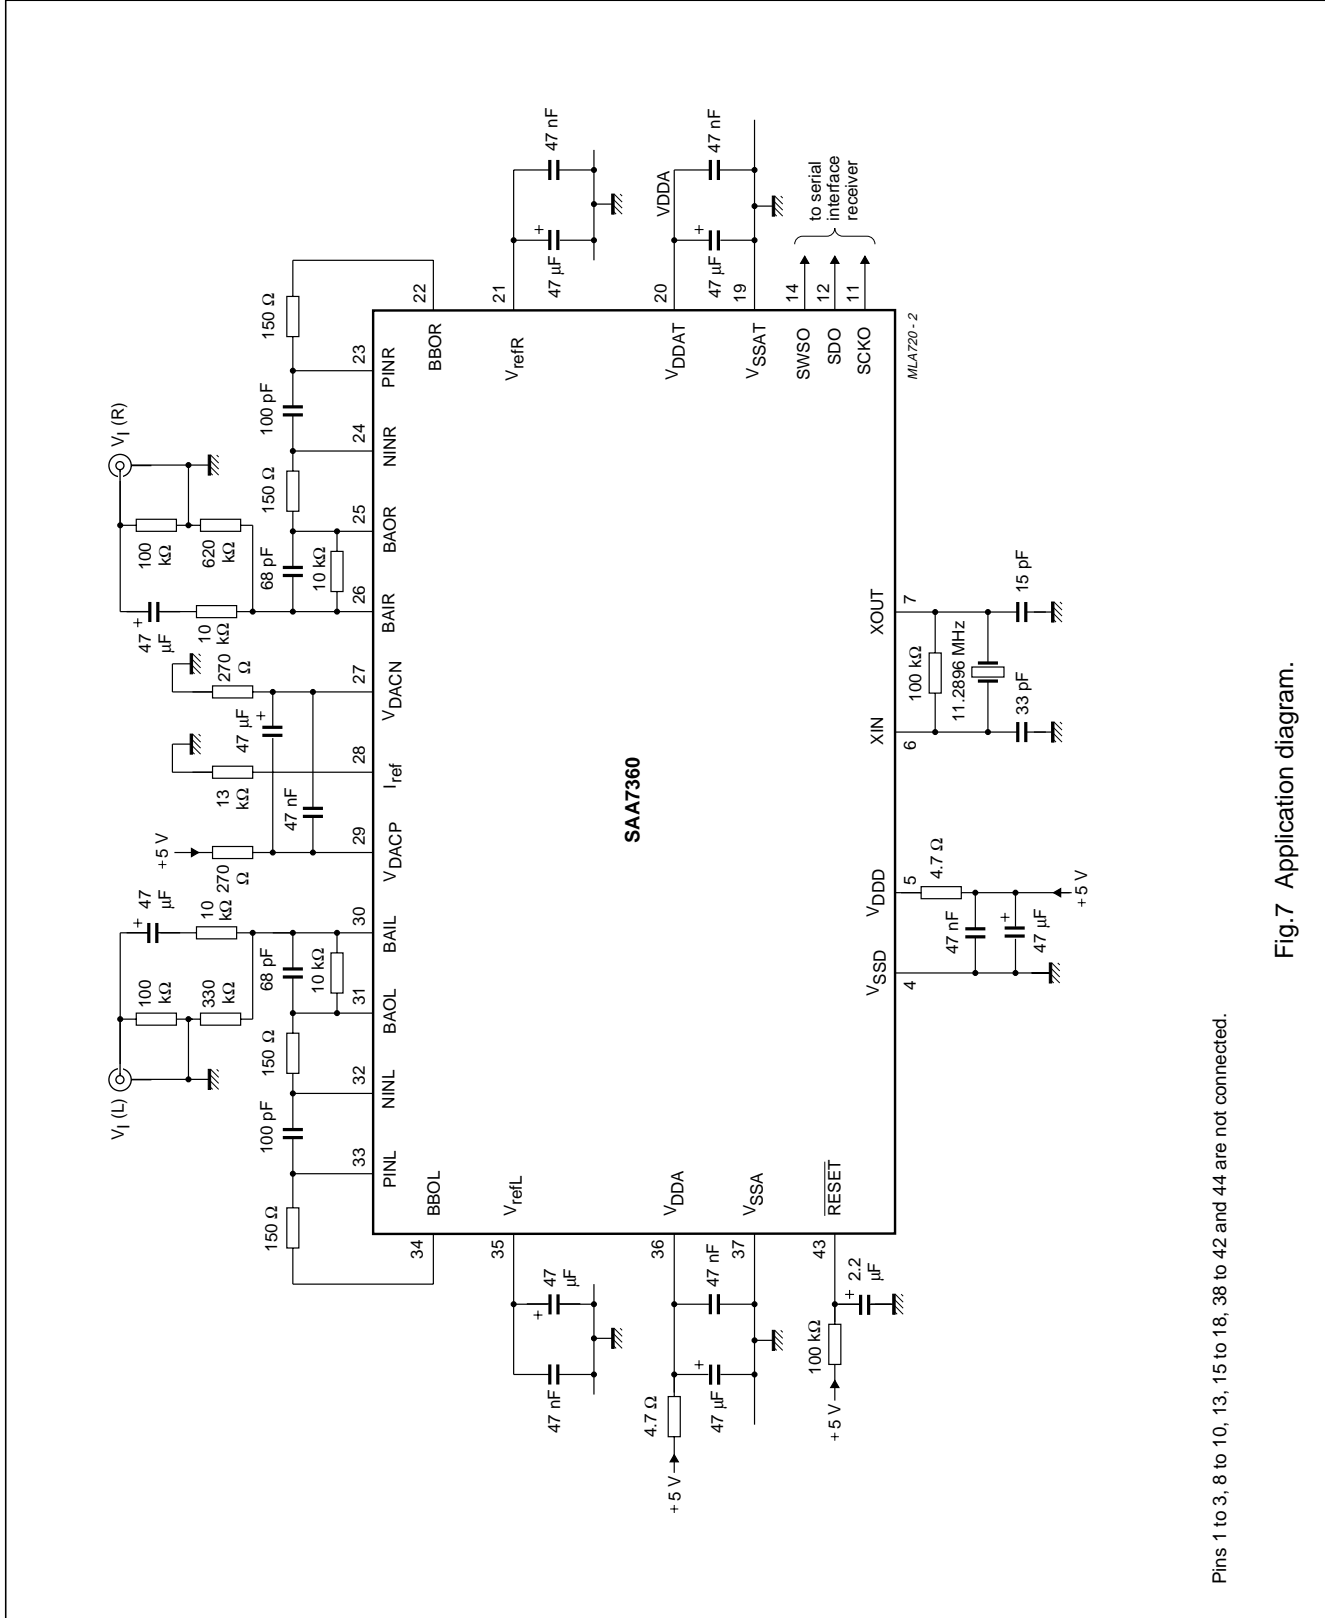

Fig.7 Application diagram.
- Device measured with external components as shown in recommended application diagram (see Fig.7).